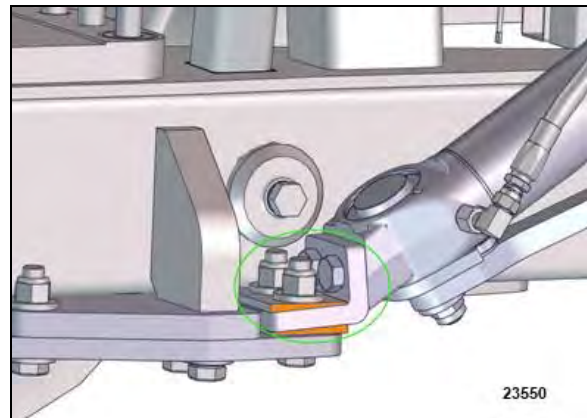

**FIGURE 33: ACTIVATING THE CHAIN SYSTEM USING DASHBOARD SWITCHES**
- From the driver seat's, pressing and holding simultaneously both the stop request reset (1) and the sweep mode (2) momentary switches while pressing the chain activation switch (3) 4 times in less than 2 seconds (FIGURE 33).